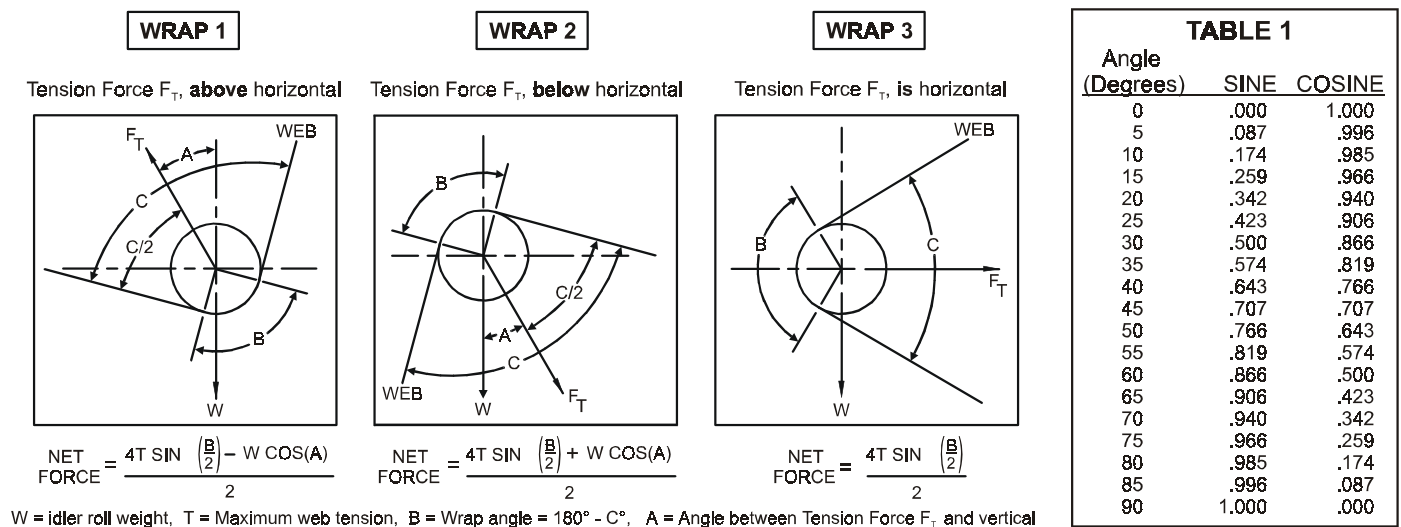

Figure 5 - LOAD RATING SELECTION FORMULAS
The correct rating for any particular application depends on web tension, transducer roll weight, wrap angle, and the direction of the tension force on the transducer roll. Figure 5 below contains mathematical formulas which use these factors to determine the correct load rating.
Refer to Figure 5. Select the appropriate wrap configuration as determined by the direction of the tension force (above, below or on horizontal). Compute the Net Force, using the formula below the wrap diagram.
2. Increase angle (A). (See Figure 5).